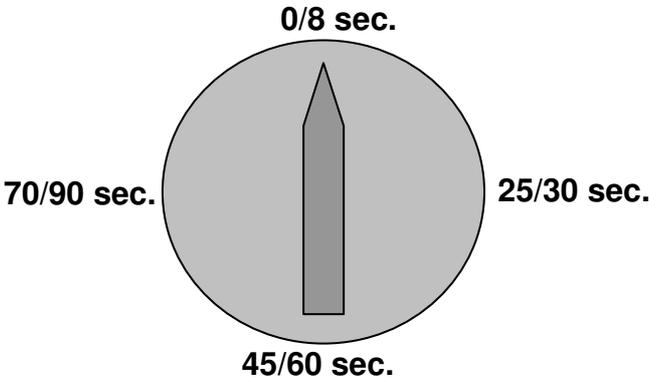

Fig.2. Approximate time delay setting
6. The delay time is independently set by the two potentiometers **P4** and **P5** between 0-70 s or 8-80 s, depending on the position of the switches **S3** and **S4**. The VM41R-D is factory set with **S3** and **S4** in position 8 and with the potentiometers **P4** and **P5** to min delay time. Approximate time delay settings are as described in fig. 2.